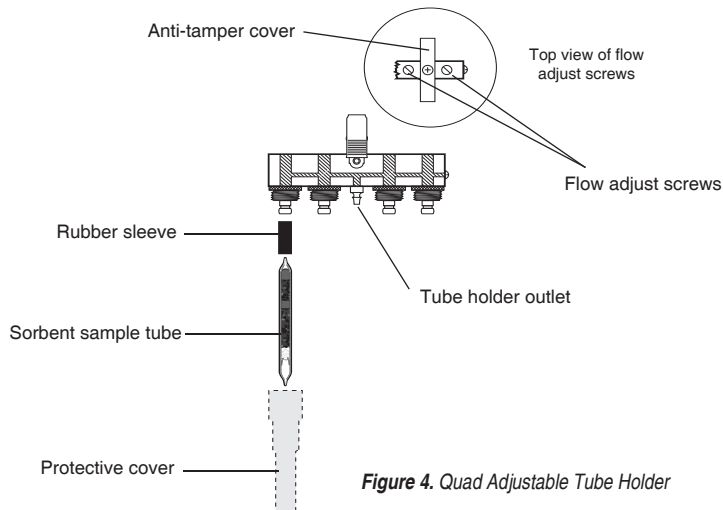

Figure 4. Quad Adjustable Tube Holder
Using Multiple-tube Adjustable Low Flow Tube Holder (Figure 4)
4. Connect the tube holder (Figure 4) to the pump inlet (Figure 1) using the attached 1/4-inch Tygon tubing. See right.
5. Insert an opened sorbent tube into each rubber sleeve of the tube holder (Figure 4). **Ensure that the arrow on each tube points toward the tube holder.**
7. Using flexible tubing, connect the exposed end of the first sorbent tube to the calibrator outlet (suction port). Loosen and turn the brass flow adjust screw (*Figure 4*) on the port of the appropriate tube holder (**counterclockwise to increase, clockwise to decrease**) until the desired flow rate is achieved. **Note:** For tri and quad models, first rotate each anti-tamper cover (*Figures 4 and 5*) to expose the flow adjust screws, then adjust the appropriate one until the calibrator indicates the desired flow.